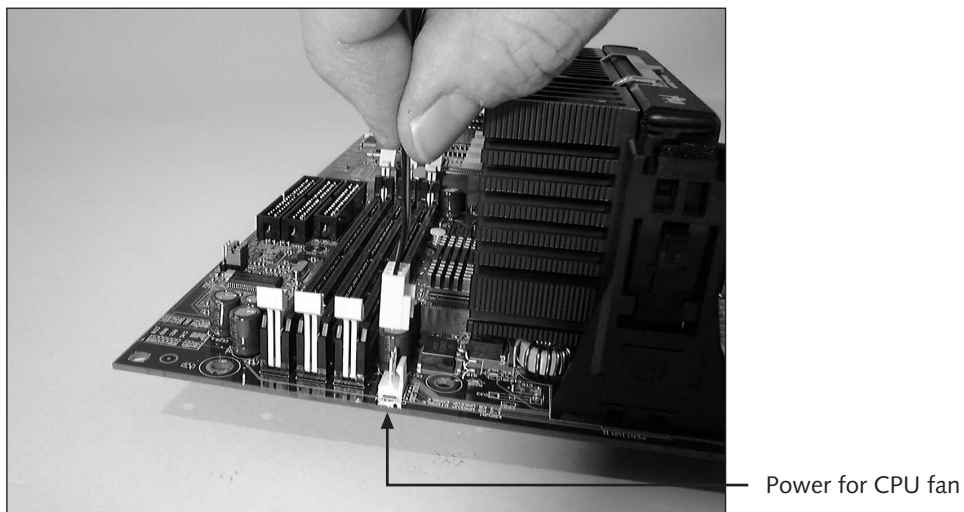

Figure 15-11 Connect the fan power cord to system board
- Connect the power cord coming from the fan to the power connection on the system board (Figure 15-11). Look for the power connection near Slot 1. If you have trouble locating it, see the system-board documentation.